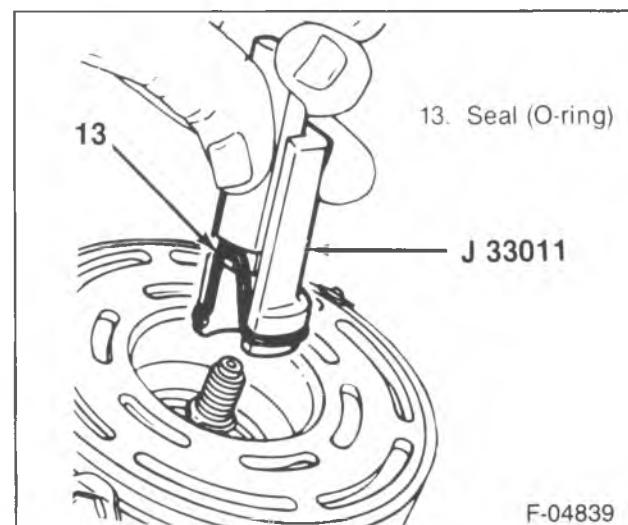

Figure 19—Installing the Seal
1. Seal (o-ring) (14) to the shaft (22) (figure 19).